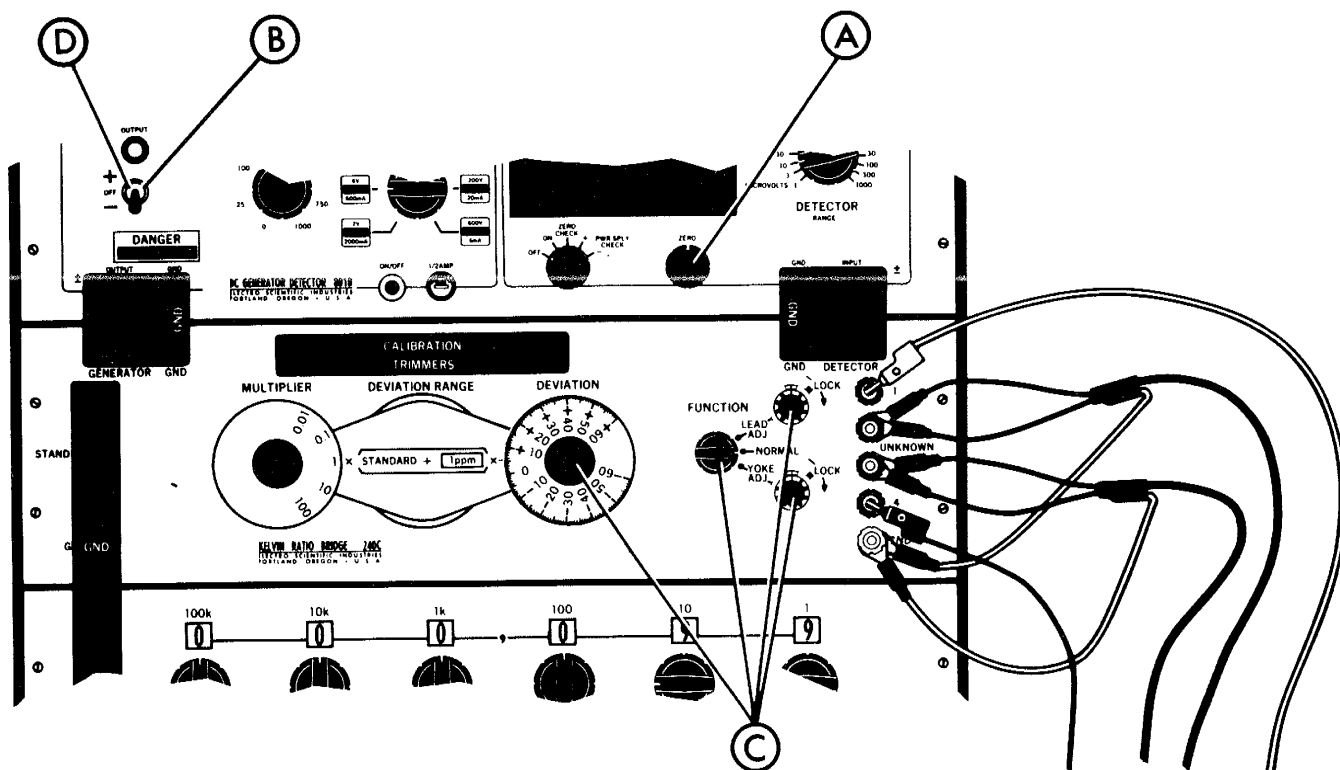

Figure 5-17. Series-Parallel Deviation from R10
17. Measure the series-parallel deviation from R10. Reference Figure 5-17.